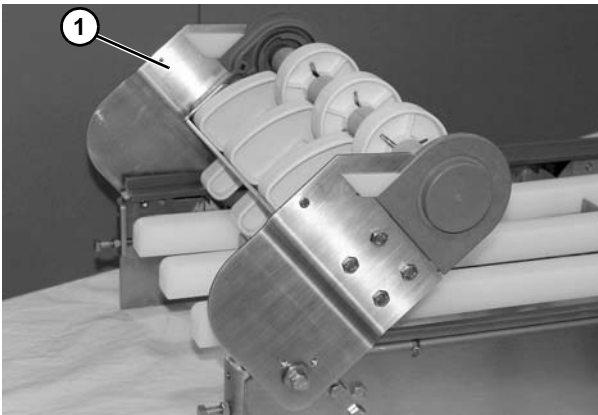

Figure 10
3. Rotate tip-up idler tail (**Figure 10, item 1**) upward as shown.